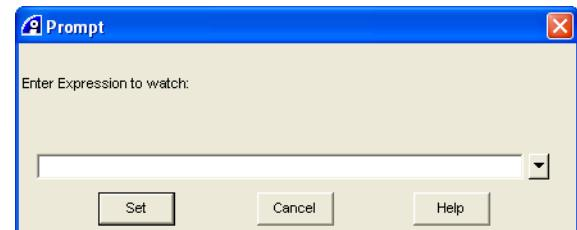

Figure 13-50 Watch expression dialog box
- Figure 13-50 shows an example: